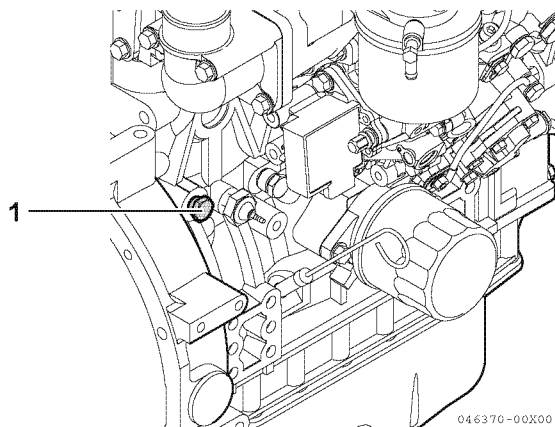

Figure 5-16
- On models not equipped with an oil cooler, remove the coolant drain plug (**Figure 5-16, (1)**) from the engine block.